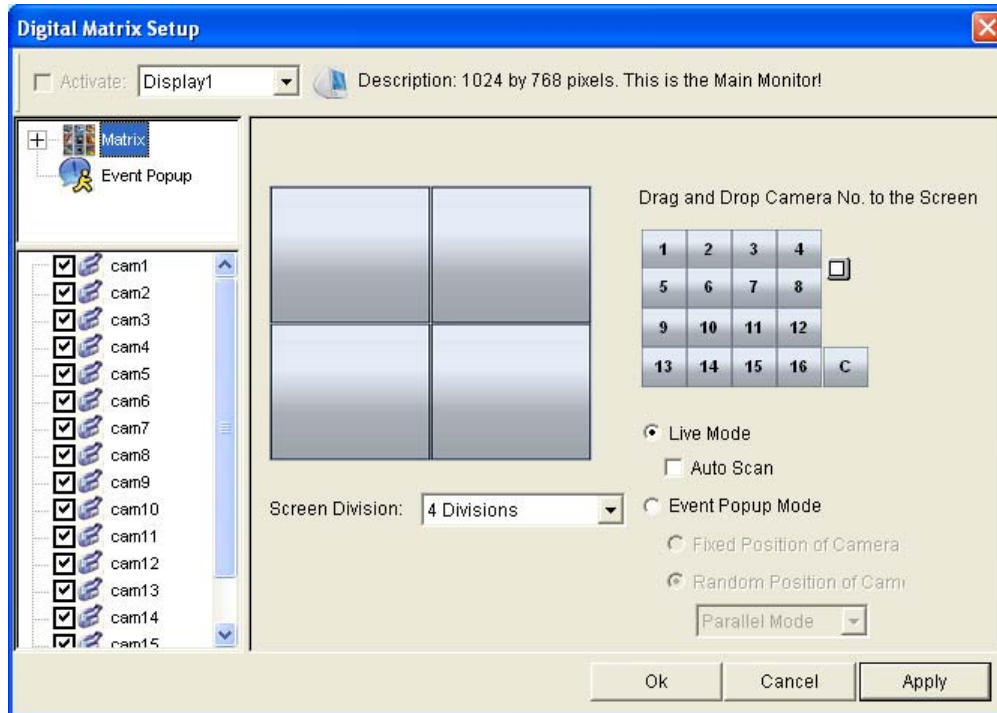

Figure 3-42
9. In the upper-left column, click the **Matrix** icon and return to Figure 3-42.
4. After above settings, click the **Matrix** icon and return to Figure 3-42.
4. Click the **Matrix** icon and return to Figure 3-42. Ensure the **Live Mode** option is selected.